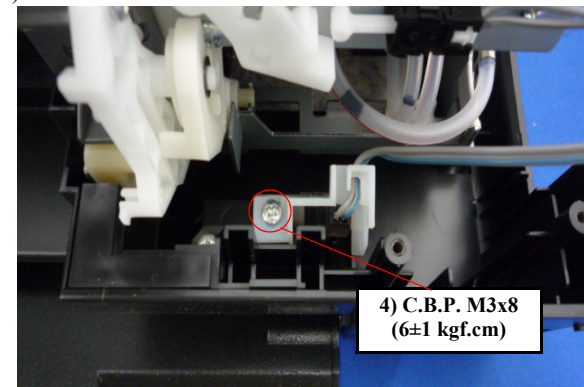

Figure 8-27. Screw that secure the Stacker Open Sensor
3. Remove the C.B.P M3×10 screw which secures the Stacker Open Sensor. (See Figure 8-27)